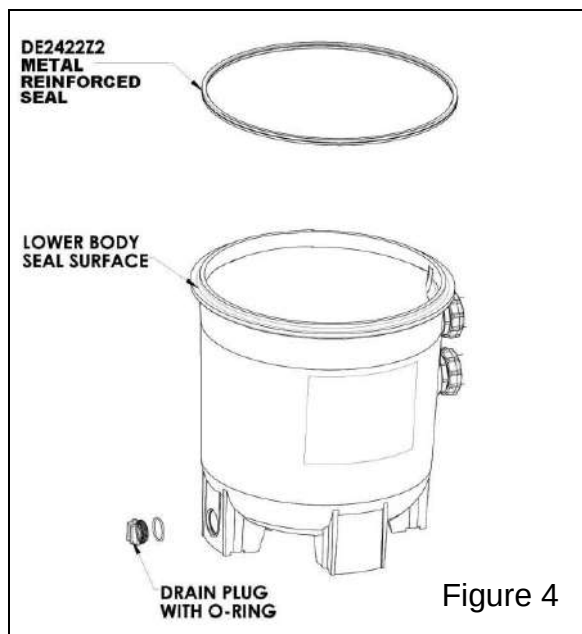
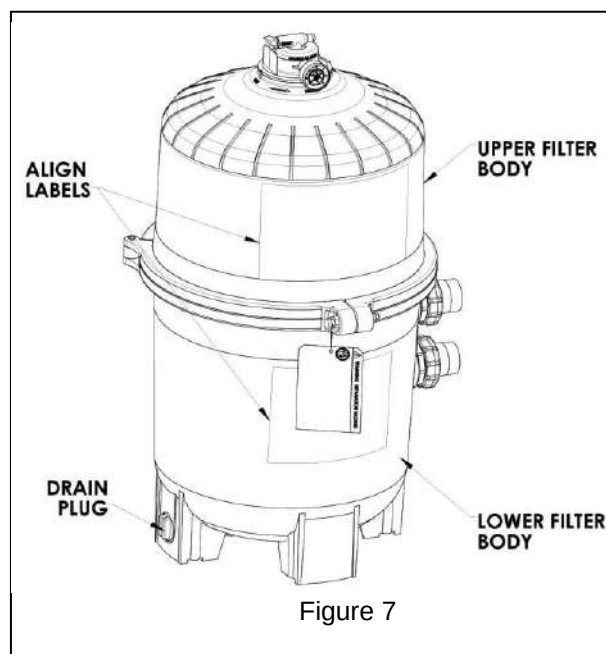

Figure 4
Figure 7
2. Close filter drain. Note: Filter plug requires an o-ring seal. (See Fig 4)
- Remove filter drain plug (FIG 4) and drain water from filter.
2. With a clean cloth wipe the lower filter body seal surface. (Fig 4) Do not use a solvent.
1. Place the metal reinforced seal on the lower filter body (Fig 4). Place the upper filter body on the Hayward DEX2422Z2 metal reinforced seal and lower filter body in a position which allows all operation and safety labels to be clearly visible and the upper body to be centered on the lower filter body. Press down firmly and evenly to set the upper filter body. (Fig 7)
2. Replace the filter clamp around the upper and lower filter bodies. Hold the clamp ends to position the clamp on the filter bodies with the clamp ends adjacent to the safety and operation labels on the filter bodies. (Fig 7)